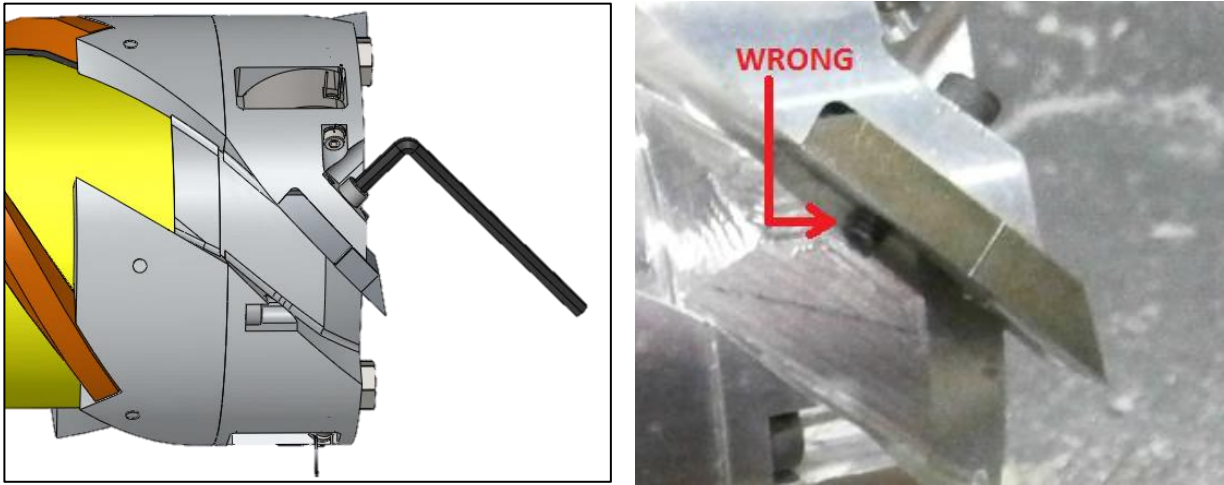

Figure 5: Cutter Installation and Removal
7.1.1.1 Using the 5/64-inch Allen wrench, remove the 8-32 socket head cap screw (Figure 5).
7.1.2.2 Install the socket head 8-32 cap screws and tighten them with the 5/64-inch Allen wrench. Use the 1/2" long screws (shorter of included lengths) so that the end of the screw is nearly flush with the cutter (Figure 5).